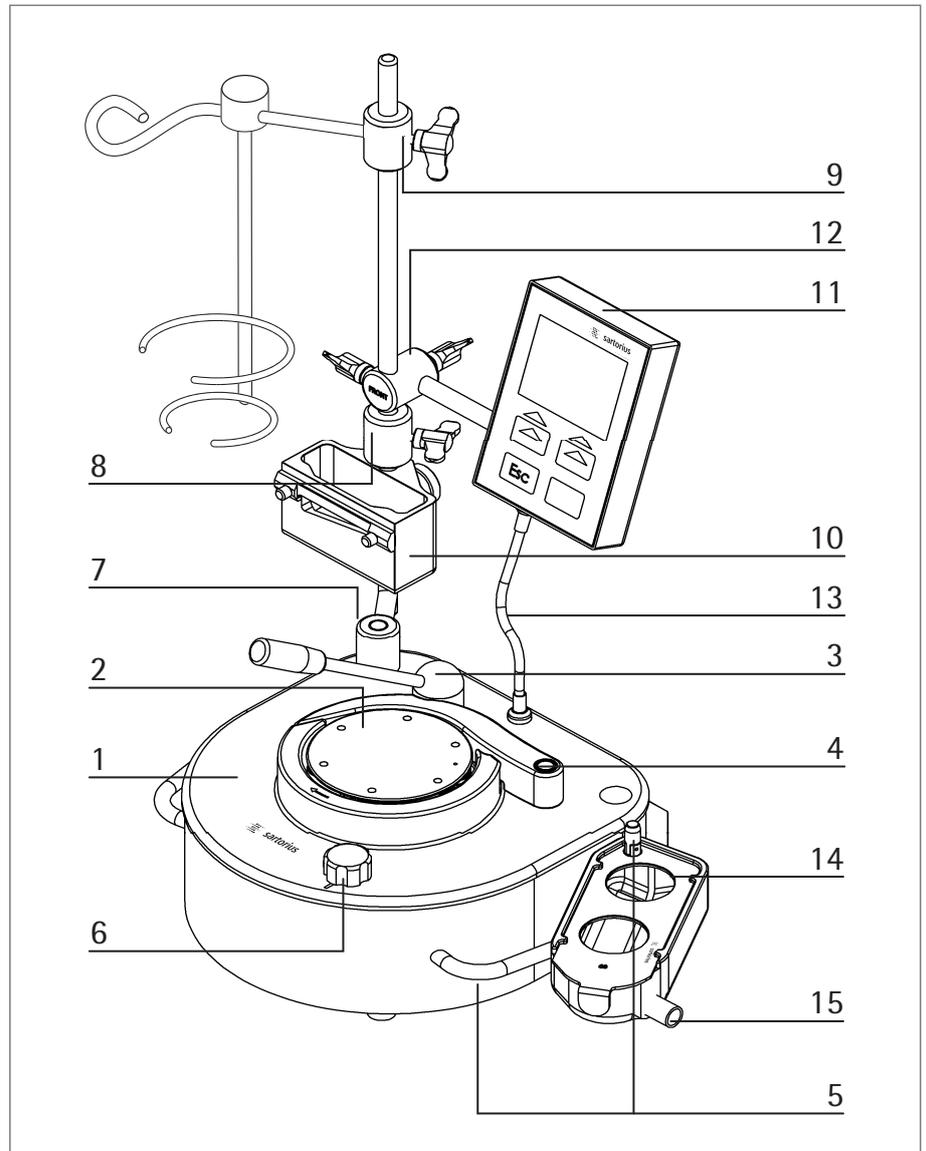

Fig. 1
The Sterisart Universal pump (Model 16420, see Fig. 1) consists of pump housing (1) with pump head (2), lever (3), bow (4) and handles (5). On the right handle, there is also a bolt with a tilting lock for the draining container (14). The selecting knob (6) is located on the front right. The support rod (7), including bottle holder (8), fastening arm (9) and optional ampoule breaker (10), is located on the left side of the pump. Additionally, the control unit (11) is also fastened to the support rod via the control unit clamp (12) and connected to the pump via the connecting cable plug (13) (see Fig. 1).
The draining container (Fig. 1; 14) for the sterility test containers is fastened to the right of the pump. Here, a draining tube can be connected to the designated flange connection (Fig. 1; 15).
At the back left, push the support rod (Fig. 1, 7) onto the pins of the upper part of the pump until it is firmly in place. The holes in the foot of the support rod can be used to change the position of the support rod.
- First, fasten the bottle holder to the support rod (Fig. 1, 8), next fasten the control unit clamp (Fig. 1, 12) with the display and control unit (Fig. 1, 11; only for version 16420) and the fastening arm (Fig. 1, 9). Then make the electrical connection to the pump via the control unit's cable and plug contact (Fig. 1, 13). If necessary, attach the ampoule breaker (Fig. 1, 10) beforehand.
- Insert the bow (Fig. 1, 4) and the clamping lever (Fig. 1, 3) on the corresponding bolts on the top of the pump. The lever is jacketed in a plastic sleeve that can be removed for cleaning. If signs of wear appear on this sleeve after it has been in use for some time, it can be re-ordered as a spare part (see Chapter 14).
- After attaching the drain tubing to the flange connection (Fig. 1, 15) on the draining container (Fig. 1, 14), attach the draining container to the appropriate bolt with tilting lock on the right handle (Fig. 1, 5). The draining container and the cover plate are attached by moving the tilting lock.